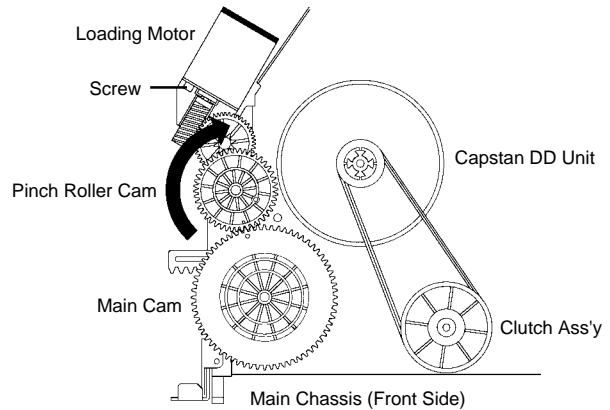

Fig. 2
3. Rotate the Pinch Roller Cam in the direction of the arrow by hand to slacken the Video Tape. **(Refer to Fig. 2)**